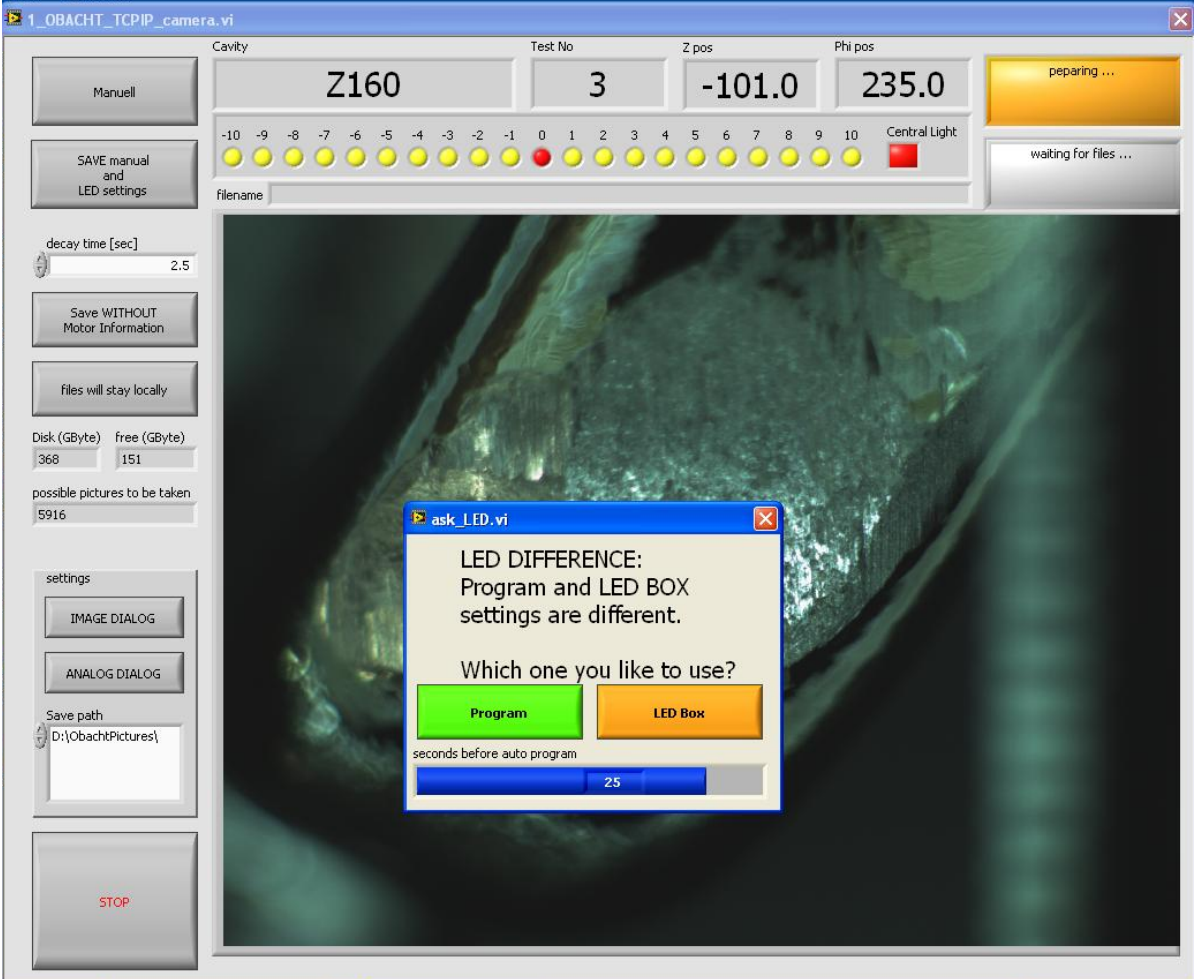

Figure 9: Screen shot of camera GUI with pop-up menu for LED settings
- e) in case of a difference between manually chosen and software LED settings a pop-up menu will appear as in figure 9. This shall prevent, that lighting settings are overwritten by manually (on the box) and unintentionally changed LED schemes